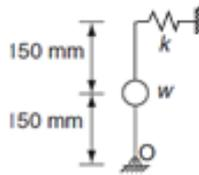

Figure 13 Question 26.
26. A uniform stiff rod of length 30 mm and having a weight of 300 N is pivoted at one end and connected to a spring at the other end (Figure 13). For keeping the rod vertical in a stable position, the minimum value of spring constant  $k$  needed is: